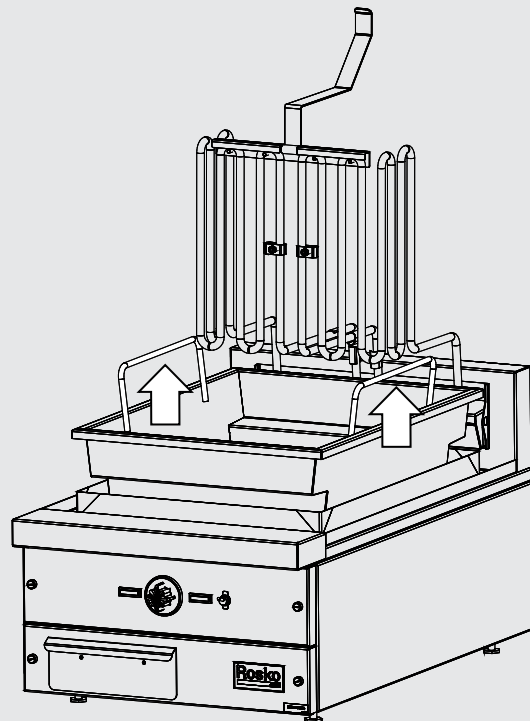

Figure 13
3. Remove the fry tank with the side handles and dispose of the used oil. **(Figure 13)**